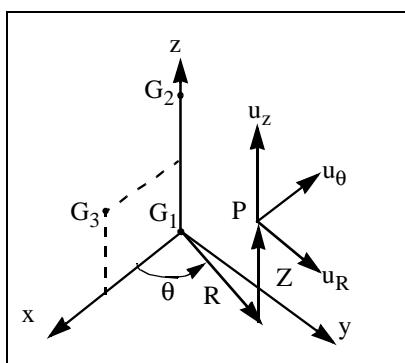

Figure 4-11 CORD1C coordinate system
- The displacement components at P,  $(u_R, u_\theta, u_z)$ , are dependent on the location of P as shown in Figure 4-11.